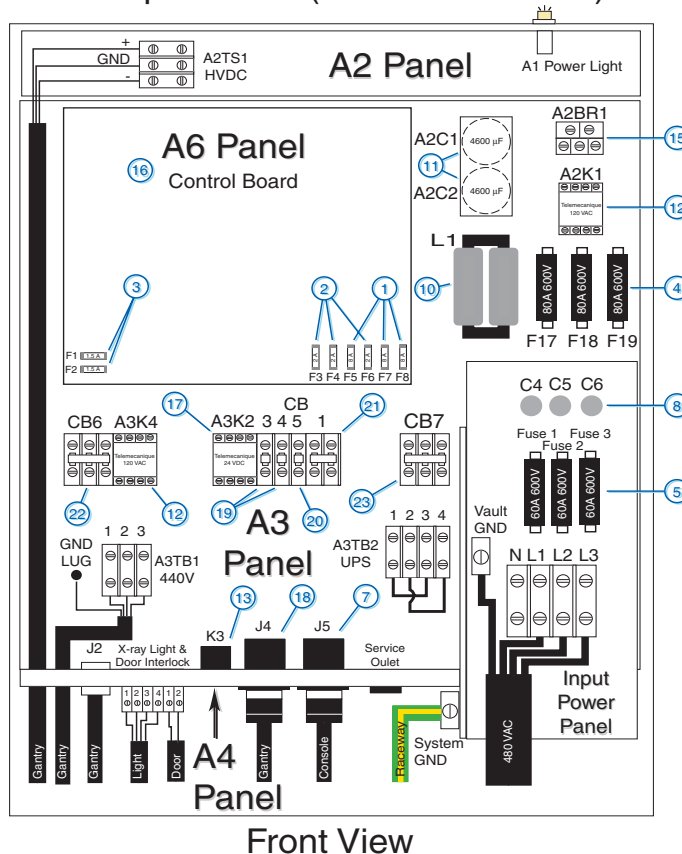
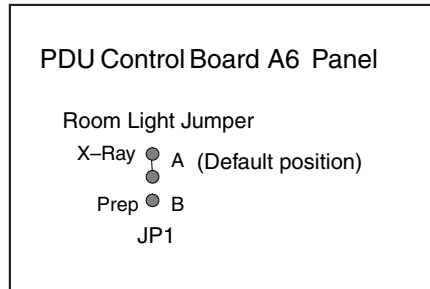

Figure 2-19 PDU Cable Connections - Front
Figure 2-28 X-ray Light Configuration
As seen in Figure 2-19, a number of cables must be installed throughout the PDU. Specific details on each connection can be found in the sub-sections that follow. Use Figure 2-19 for reference. The PDU has been designed to have cables routed into the PDU from its behind and/or from beneath it.
(See Figure 2-19.)
Connect the internally shielded HVDC cable to A2TS1 on the A2 panel. See Figure 2-19 for the location of the connector and Figure 2-24 for details. Observe polarities and grounds.
Connect the internally shielded 440V cable from the gantry to A3TB1 on the A3 panel. See Figure 2-19 for the location of the connector and Figure 2-24 for details. Observe the labels on the cable leads for proper identification and orientation.
Connect the ground wire (green with a yellow strip) from the Table/Gantry raceway ground bus to the system ground lug in the PDU. See Figure 2-19, on page 80, and Figure 2-27, below.
- 1.) Configure PDU control board for correct x-ray light operation. Determine whether the x-ray light should come on when high voltage is present or when x-ray is present. The board is shipped with the x-ray light turning “ON” when x-ray is present only. To change this, go to the PDU Control Board (see Figure 2-19, on page 80), and move the jumper from position “A” to position “B”. See Figure 2-28. In the “B” position, the x-ray light illuminates whenever high voltage is present.